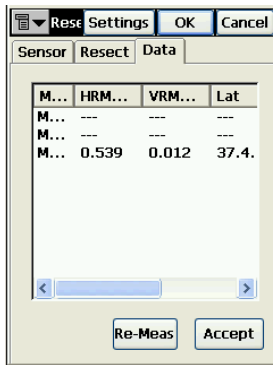

Figure A-5. Resection Data Results
8. Tap the *Data* tab to view the results (Figure A-5).